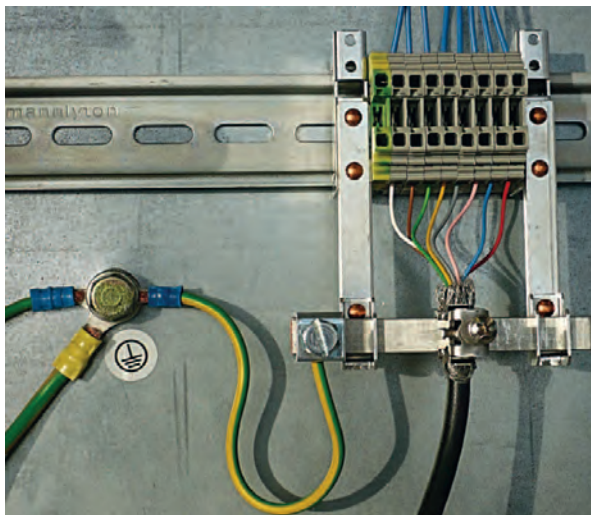

Figure 7.2: Connecting the cable shielding in the switch cabinet
- ✚ Clamp the shield in the switch cabinet flat to FE (see figure 7.2).